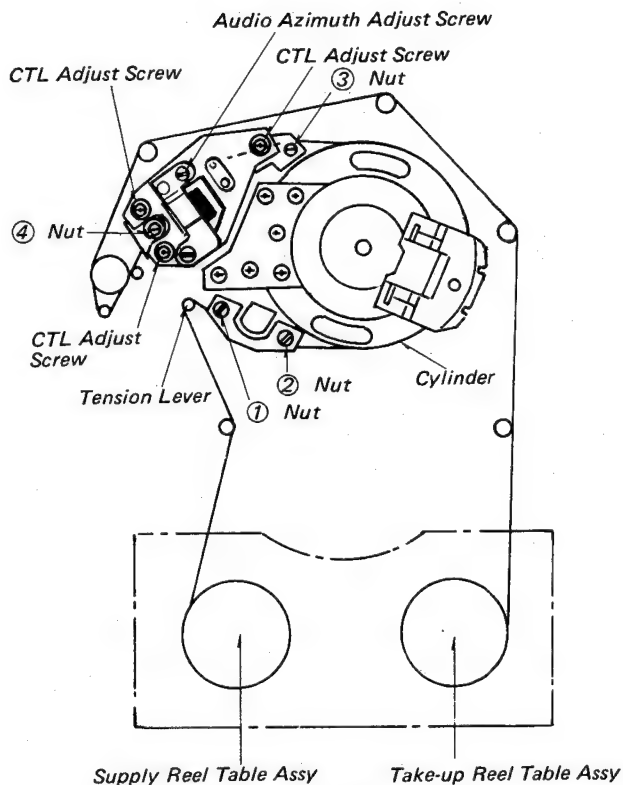
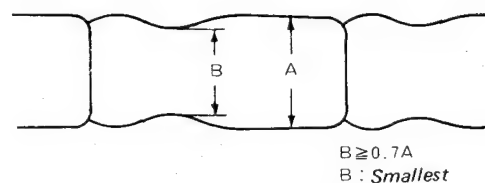

Fig. 5-83 Tape Path Adjustment.
Fig. 5-88 Envelope Waveform.
Adjust points (see Fig. 5-83)
(1) Rough adjustment (see Figs. 5-83, -84, -85)
5. Adjust the nuts ①, ②, ③, and ④ in Fig. 5-83 in accordance with paragraphs (3) and (4) below until the oscilloscope shows such an envelope waveform as in Fig. 5-88 and the audio level variation is limited to within 2 dB. (see Fig. 5-83)
2. Precisely adjust the nuts ① and ② until the center of the cylinder is in line with the inlet arrangement, as follows (see Fig. 5-83).
- a. Adjust the guide nut ① so that the upper or lower flange may press the tape as observed with use of the dental mirror (see Figs. 5-83, -85).
- b. Similarly, adjust the guide nut ② so that the upper flange may press the tape.
- c. If the tape is curled at the inlet guide in any way when the envelope waveform is made flat, slightly bend the tape tension lever using the tension regulator bending jig for no curl (see Figs. 5-83, -86).
(4) Outlet arrangement adjustment
2. Precisely adjust the nuts ③ and ④ until the center of cylinder is in line with the outlet arrangement, as follows (see Fig. 5-83).
- a. Adjust the guide nuts (③ and ④) so that the tape may move along the upper flange of the outlet guide assembly as observed with use of the dental mirror (see Figs. 5-83, -84).
NOTE: No adjustment of audio head height is necessary, as it can be viewed by having the tape run along the tape outlet guides ③ and ④. DO NOT turn the slotted screw painted with RED ENAMEL. (see Fig. 5-83).